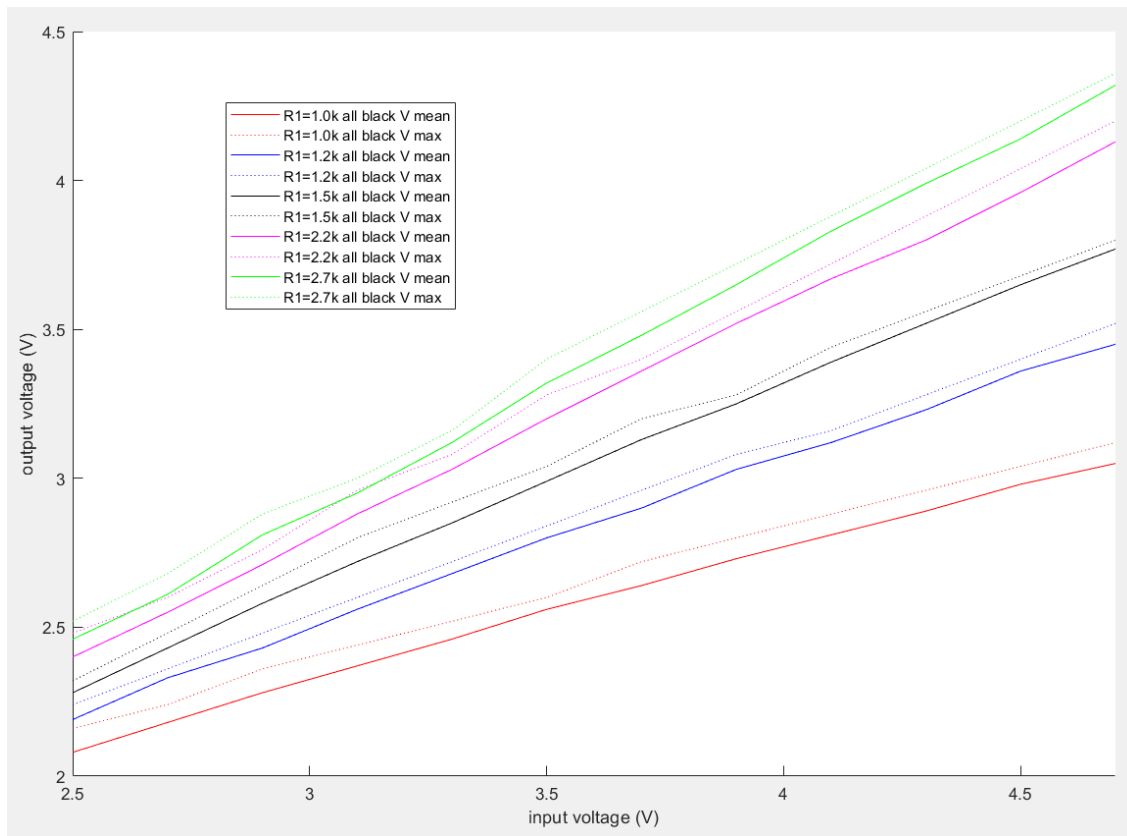
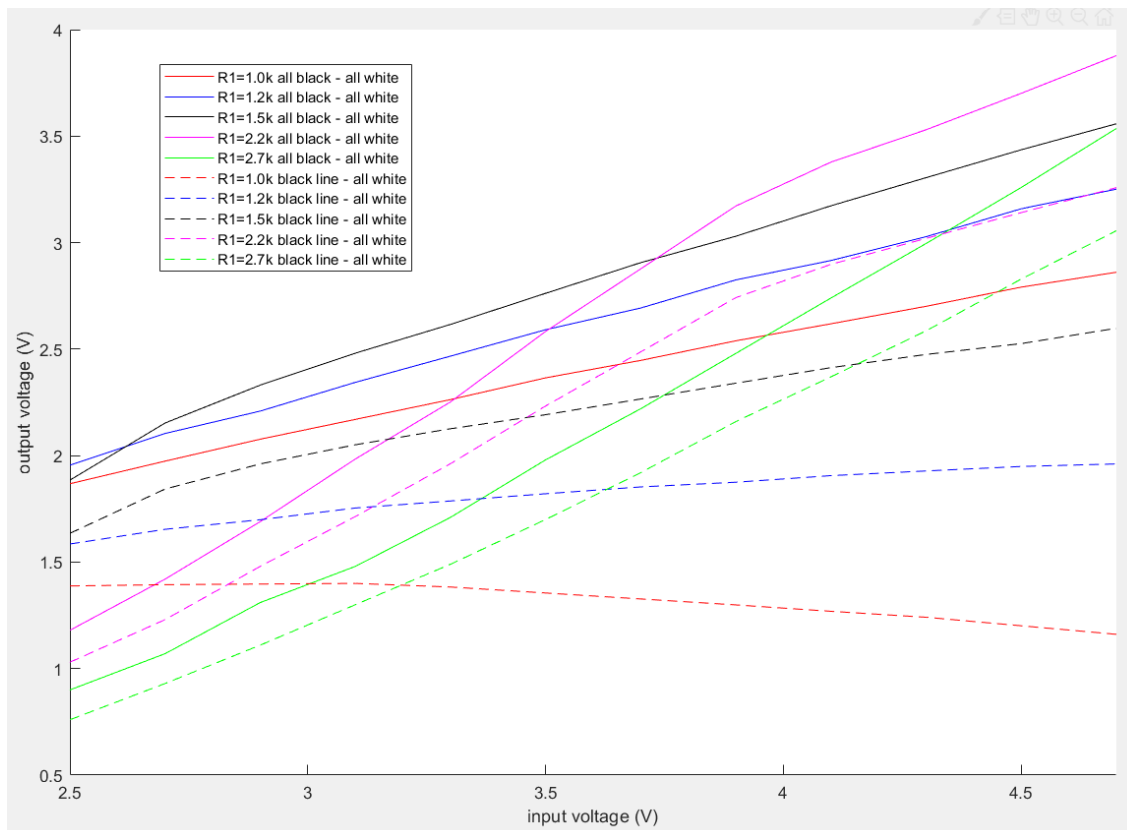

Figure 15 Dependence of output voltage on input voltage, R1 value, and type of surface (2mm above surface, multiple sensor units)
Figure 16 Difference of sensor reading over a feature with sensor reading over all white for different values of R1 (2mm above surface, multiple sensor units)
- If sensor unit is over all black, all white or over a thin black line. Black thin line is surrounded by white and neighboring sensor units light will be reflected to our sensor unit and will lower its value (see Figure 15)
- Input voltage. Higher voltage improves all black (see Figure 15) and all white (see Figure 13) readings but makes thin black line readings a bit worse if input voltage gets too large (see Figure 15). The biggest drawback of higher voltage increase is that it also increases power consumption and minimum voltage on the batteries.
For ADC we want maximum value of output voltage to be $< 3.3\text{ V}$ (this will allow us to have max ADC reading speed). To pick the best value we can use data from Figure 15 which has maximum values for each resistance and input voltage. Another important consideration is to pick max range between all white and feature readings to increase resolution (see Figure 16).
$R1 = 1.5 \text{ k}\Omega$. Tolerance can be $\pm 1\%$ (based on data from Figure 16 for input voltage of 3.3, as you can see reading for 1.5k Ω is higher than anything else for both all_black – all_white and black_line – all_white).